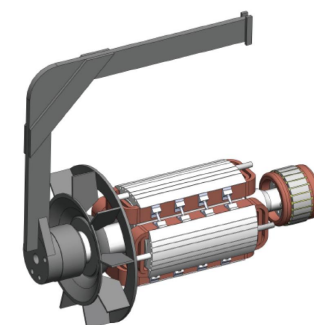

Figure 12 - professional lifting device
- for the large capacity generator with very heavy rotor, using professional lifting device as Figure 12.